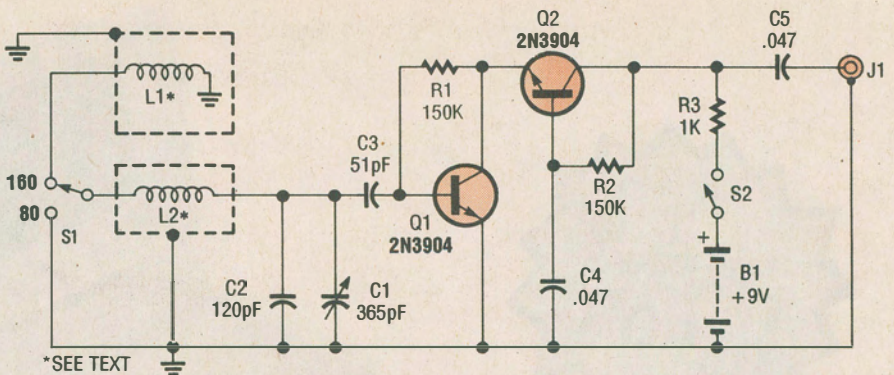

Fig. 1. The Dual-Band Loop Antenna consists of little more than three large loops of wire (L1 and L2), two transistors, and a few additional components.
**About the Circuit.** Figure 1 shows the schematic diagram of the Dual-Band Loop Antenna system. The receiving element consists of loops of wire threaded through a child's hula hoop. Switch S1 is used to select either 80/75- or 160-meter operation. When S1 is in the 80/75 position, only a single loop of wire, designated L2, is connected to the balance of the circuit. When S1 is placed in the 160 position, a double loop of wire, designated L1, is placed in series with L2, and all three loops are connected to the circuit. The receiving element is made resonant at the desired operating frequency using variable capacitor C1.
Assemble the rest of the circuit using Fig. 1 as a guide. In the author's prototype, all of the other components—except S1, S2, B1, J1, and C1 (it's too big)—were placed on a terminal strip that was mounted (with one or two of its lugs grounded) to an inside wall of the enclosure. Point-to-point wiring was used to interconnect the components. You could also assemble the circuit on perfboard, if you prefer.